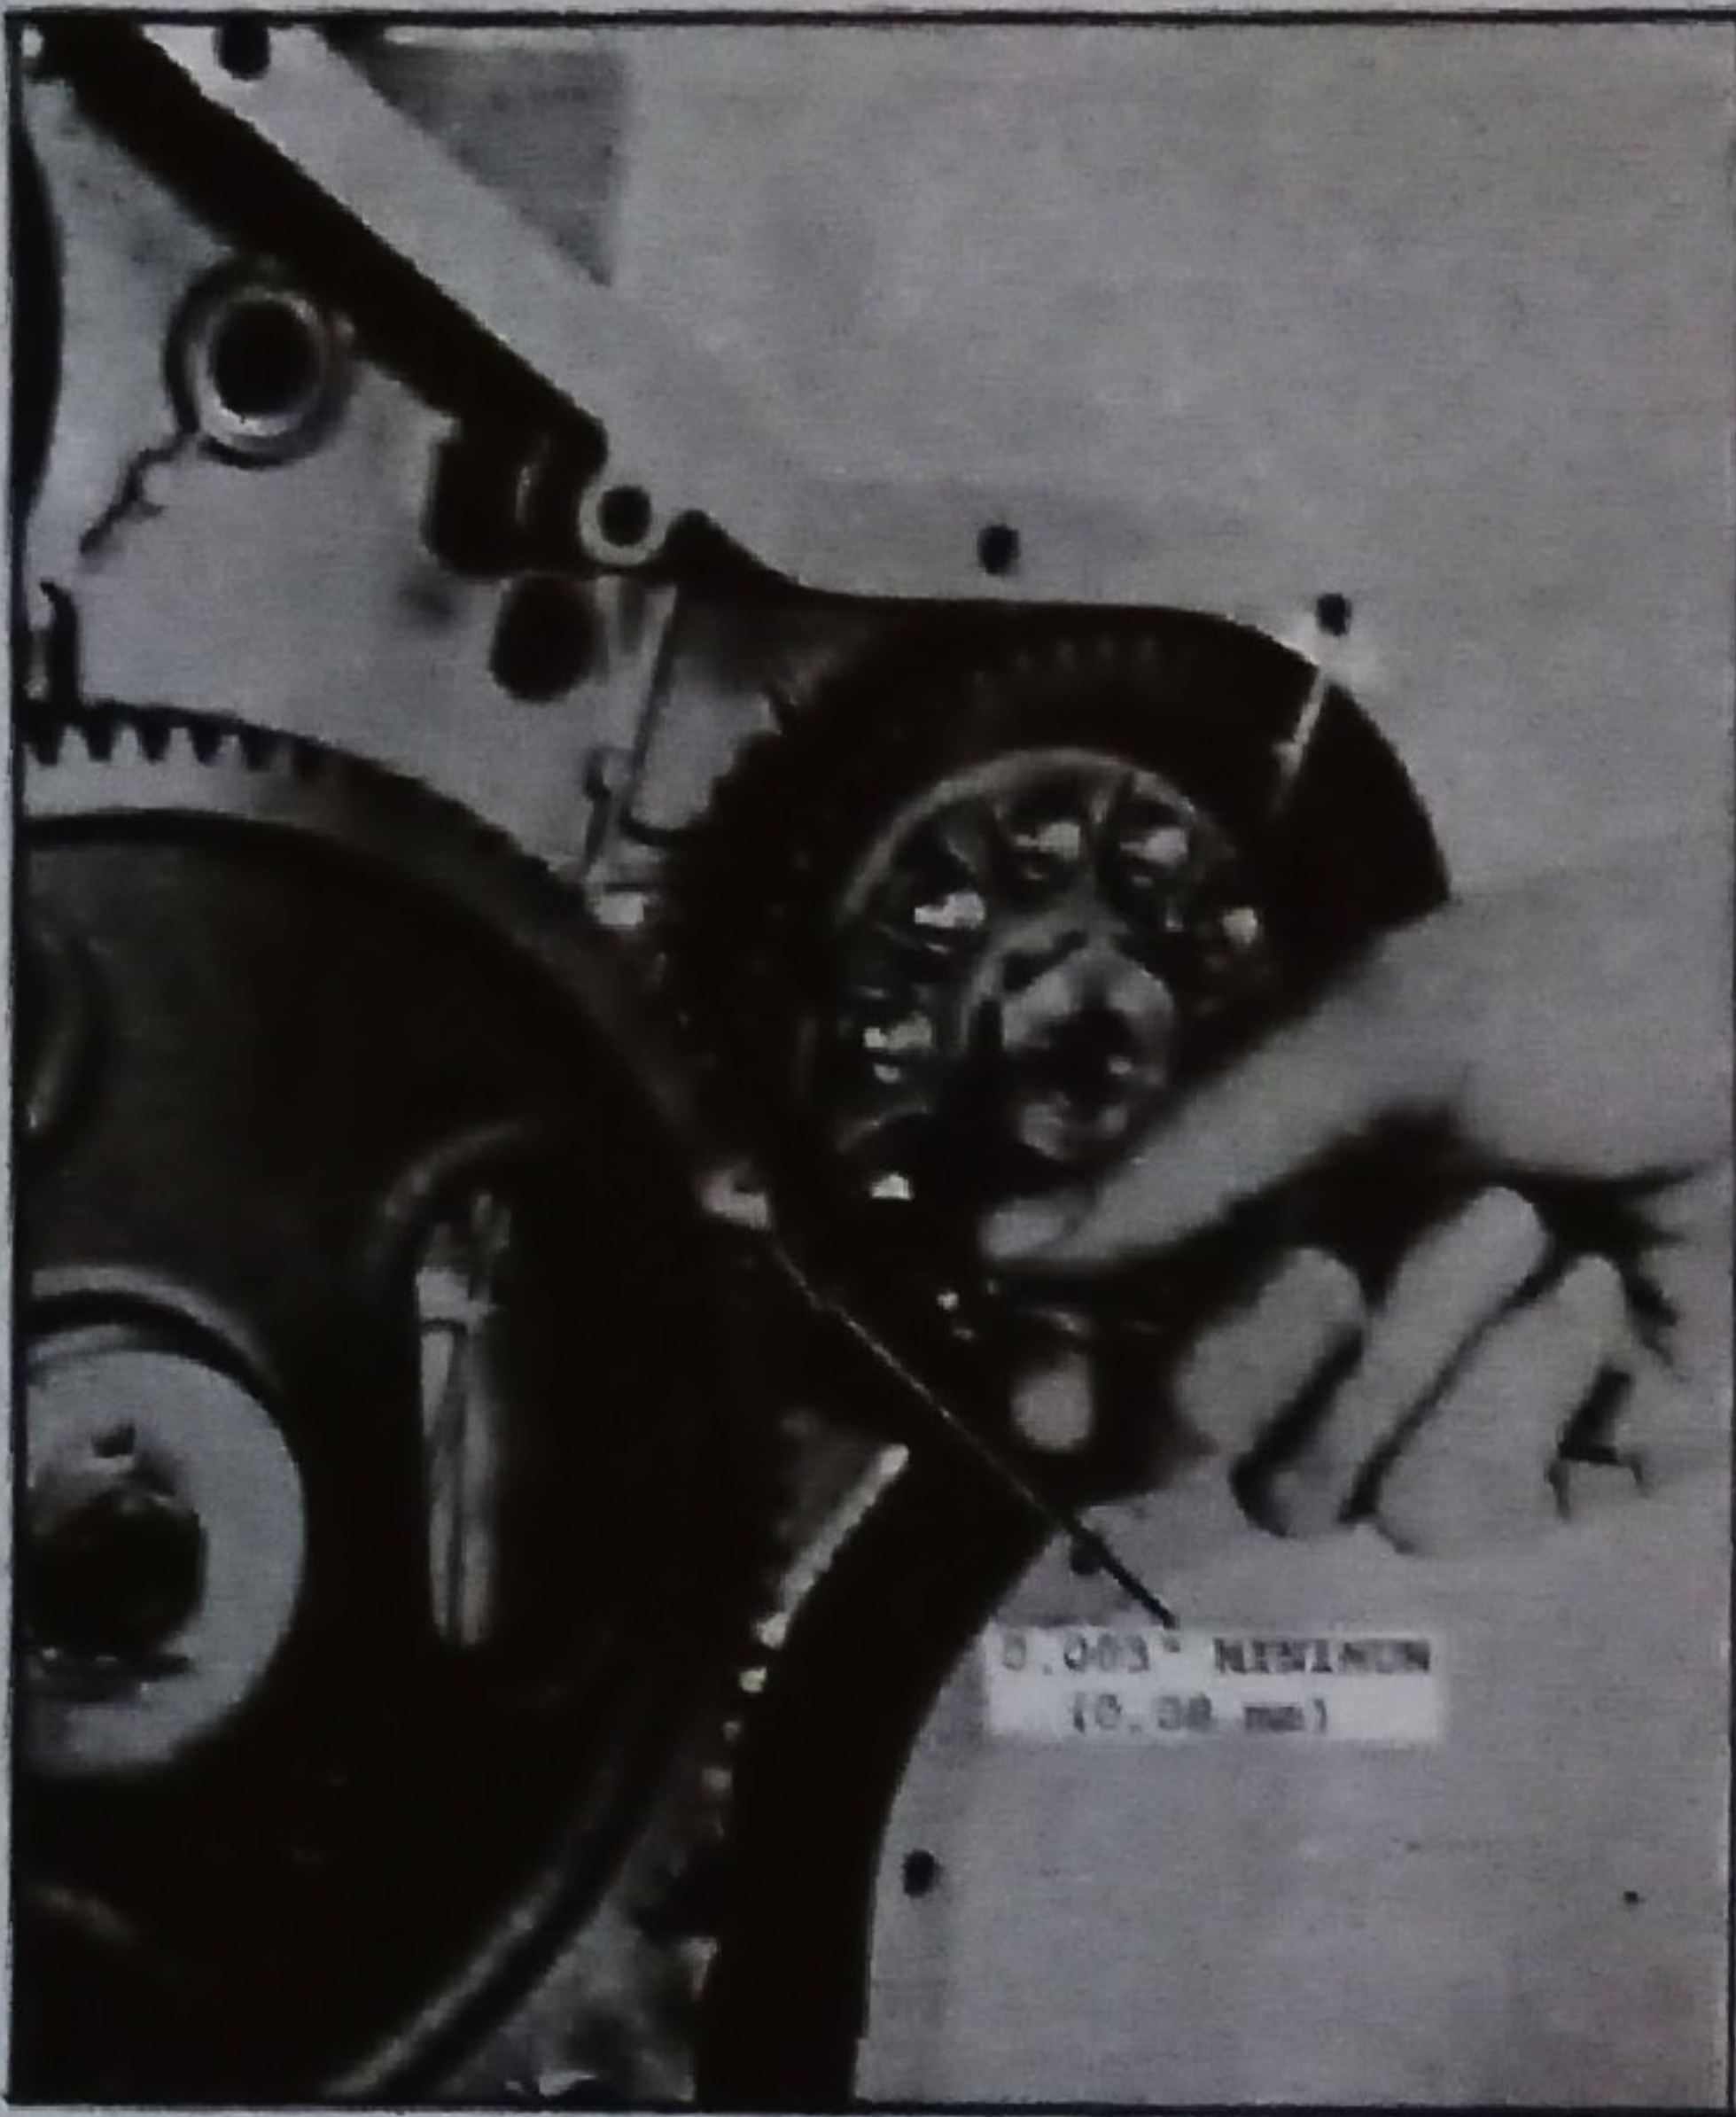

Fig. 37 - Measuring Timing Gear Backlash Between Idler Gear and its Other Three Mating Gears
2. Check backlash between the timing gears with a feeler gauge. Refer to Fig. 37. Backlash between idler gear and its other three mating gears should be 0.003 in. (0,08 mm) minimum). Backlash between crankshaft gear and oil pump gear should be